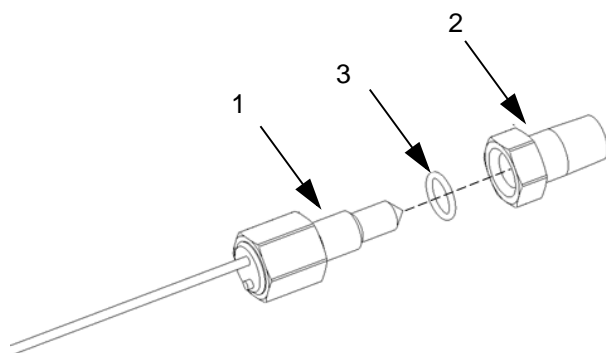

FIG. 3. ATEX-Certified Sensor Assembly
- a. Slip the o-ring (3) onto the sensor (1). See FIG. 3.
- b. Screw the sensor bushing (2) onto the sensor (1). See FIG. 3.